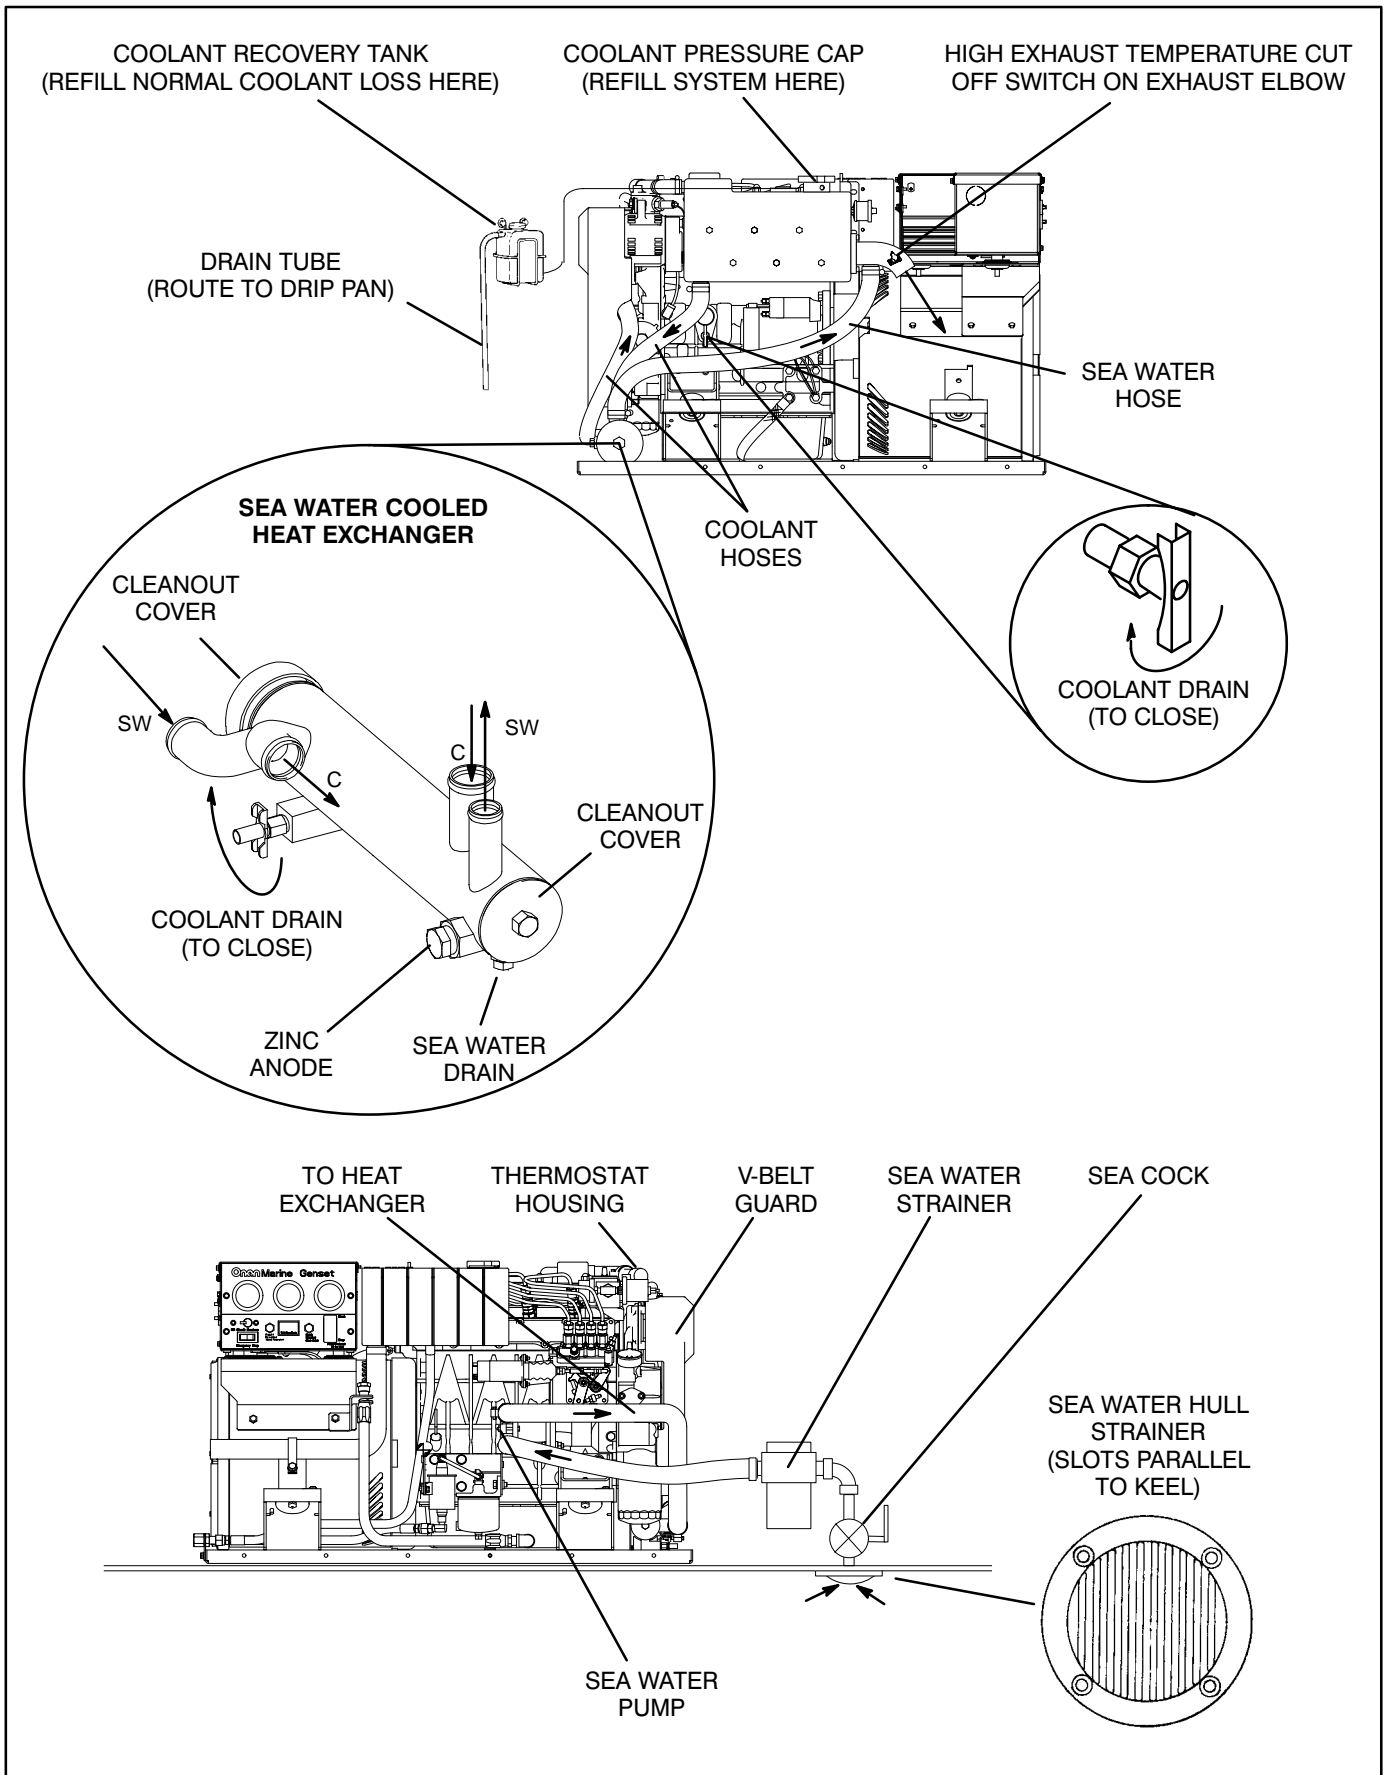

FIGURE 10. TYPICAL HEAT EXCHANGER-TYPE COOLING SYSTEM
5. If freezing temperatures are expected, drain the heat exchanger of sea water by removing the drain plug in the bottom of the heat exchanger (Figure 10). Replace the plug when the water has drained.
If the genset has a heat exchanger and/or a wet exhaust elbow, the engine is equipped with a sea water* pump driven by a power takeoff on the engine. The sea water cools the heat exchanger and/or exhaust gases and exits the vessel through the exhaust system. (There is no sea water pump if the genset is equipped for keel cooling and dry exhaust.) Figure 10 illustrates a typical installation of a genset equipped with a heat exchanger, wet exhaust elbow and sea water pump.
Draining the System: Let the engine cool down, disconnect the negative (-) cable(s) at the battery(ies) to prevent the engine from starting, remove the system pressure cap and open the block and heat exchanger drain cocks (Figure 10). See the manufacturer's instructions regarding a keel cooler. Collect used coolant in containers for proper disposal.
Replace the thermostat (Figure 10) at the recommended frequency (Table 2) to maintain optimal engine cooling.